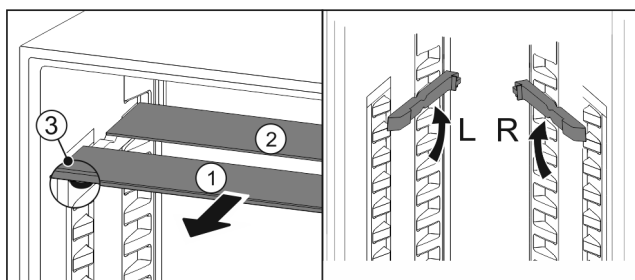

Fig. 100
- Pull the glass panels out Fig. 100 (1) from the front, one at a time.
- The glass panel Fig. 100 (1) and trim strip are at the front.
- The stops Fig. 100 (3) point down.